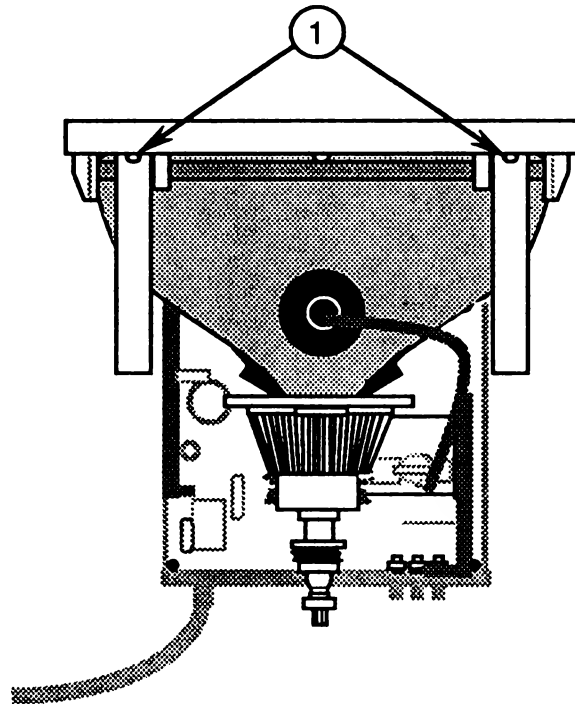

FIGURE 27
8. Install the two insulated upper case supports from the logic board replacement kit. To do this, replace the two screws that secure the upper case supports to the top of the bezel (Figure 27, #1).